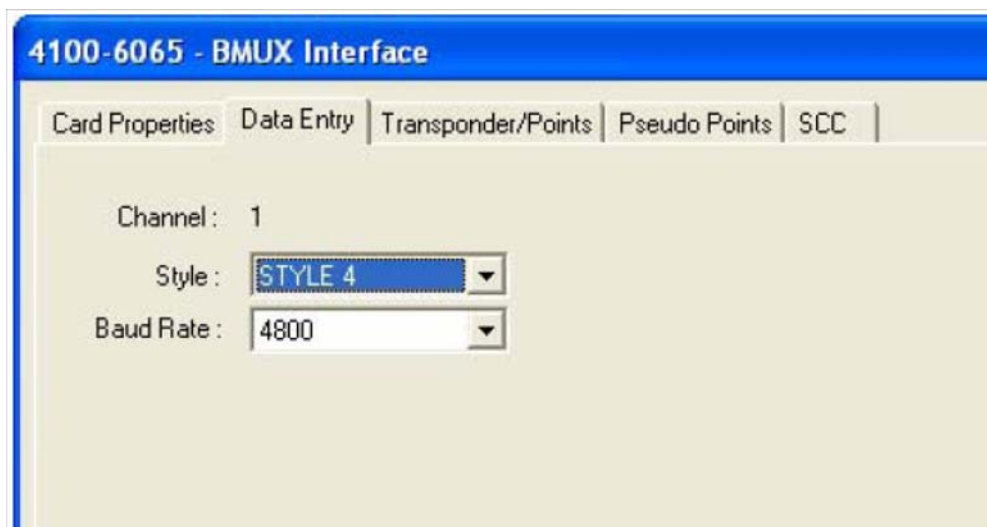

Figure 6-38. BMUX Card Data Entry Tab
1. Click on the **Data Entry** tab of the 4100 6065 BMUX Interface. A dialog box appears as shown in Figure 6-38.